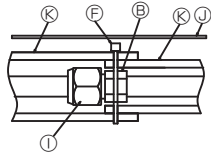

Fig. 3-15
- (2) Wrap the covers of the connection pipes, and secure them at band Ⓔ.
- (3) Attach insulation ⓫ so that it covers the cut parts of the connection pipes. (Fig. 3-15)